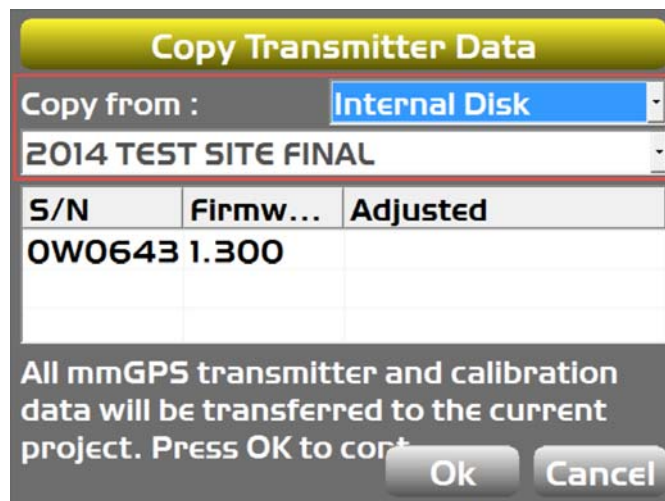

Figure 58: Copy Transmitter Data
3. Tap **Copy**. The **Copy Transmitter Data** screen appears (Figure 58).